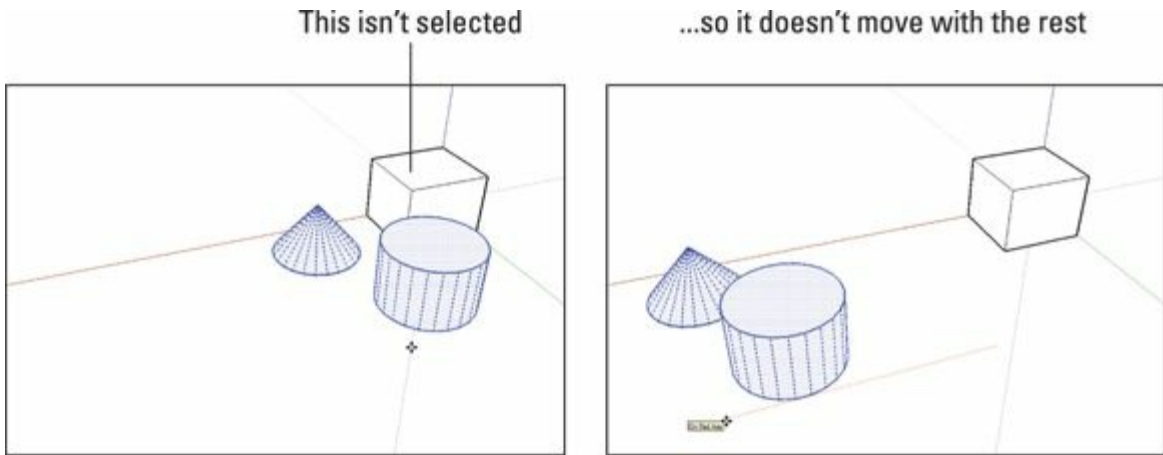

FIGURE 3-22: Using the Move tool when you have a selection moves only the things in that selection.
- » **Moving a selection:** When you select one or more entities, the Move tool moves only the selection. This behavior is handy when you need to move more than one thing all at once; Figure 3-22 shows how to move selected items with the Move tool.